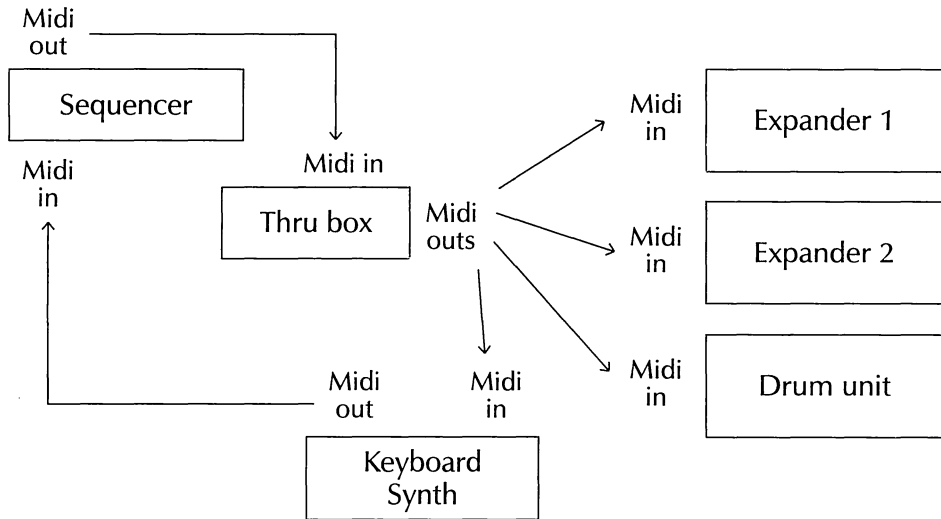

Figure 3.3: A typical star network arrangement using a Midi Thru Box.
* The bad news here is that many sequencers and computer Midi interfaces are not provided with multiple Midi Out terminals. And because of the nature of Midi's digital signals it is not possible to solve the problem by splitting up a conventional Midi lead to produce one with multiple connections on one end. The solution here is to use a device known as a Thru box which enables you to turn a single Midi Out connection into any number of outputs. The result is the connection arrangement shown in Figure 3.3.